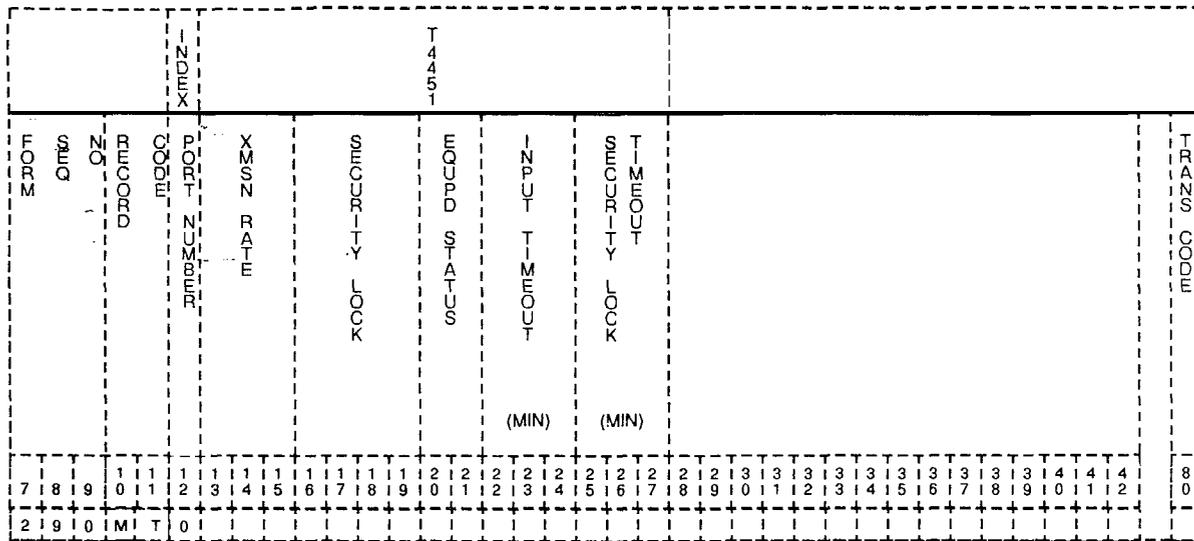

Figure 13.2 Record Code MT: Message Detail Recorder Port Data Sheet
**Record Code MT: Message Detail Recorder Port** 13.2 Record Code MT, Figure 13.2, defines the requirements for the MDR (Message Detail Recorder) TTY unit interfacing the system.